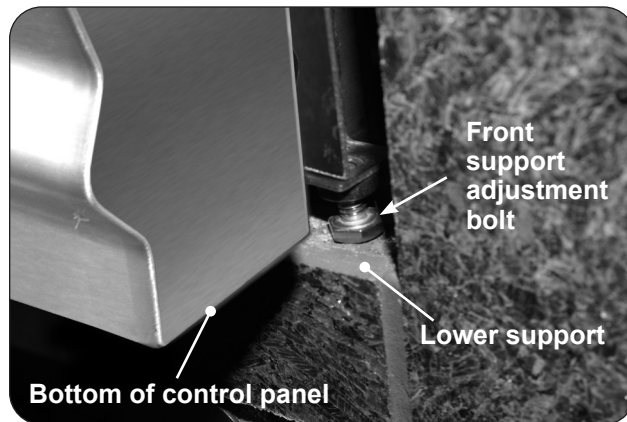

Fig. 23-1 Front support adjustment bolts
2. Rotate the front support adjustment bolts (up or down) until the grill hanger rests flush on the countertop, AND, the adjustment bolts are touching the supporting structure found at the bottom of the cutout (lower support). Use a $\frac{7}{16}$ " open-end wrench as needed. See Fig. 23-1.